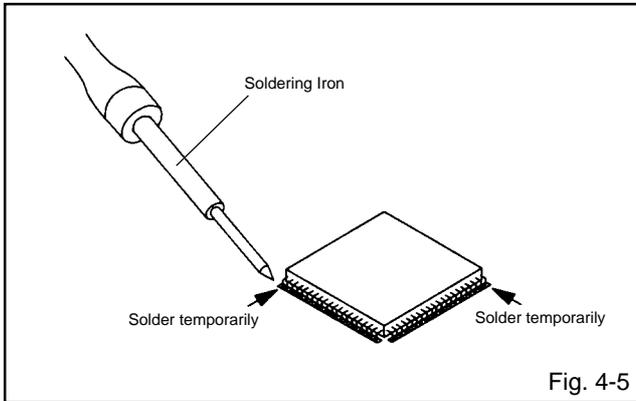

Fig. 4-5
1. Take care of the polarity of new IC and then install the new IC fitting on the printed circuit pattern. Then solder each lead on the diagonal positions of IC temporarily. **(Refer to Fig. 4-5.)**